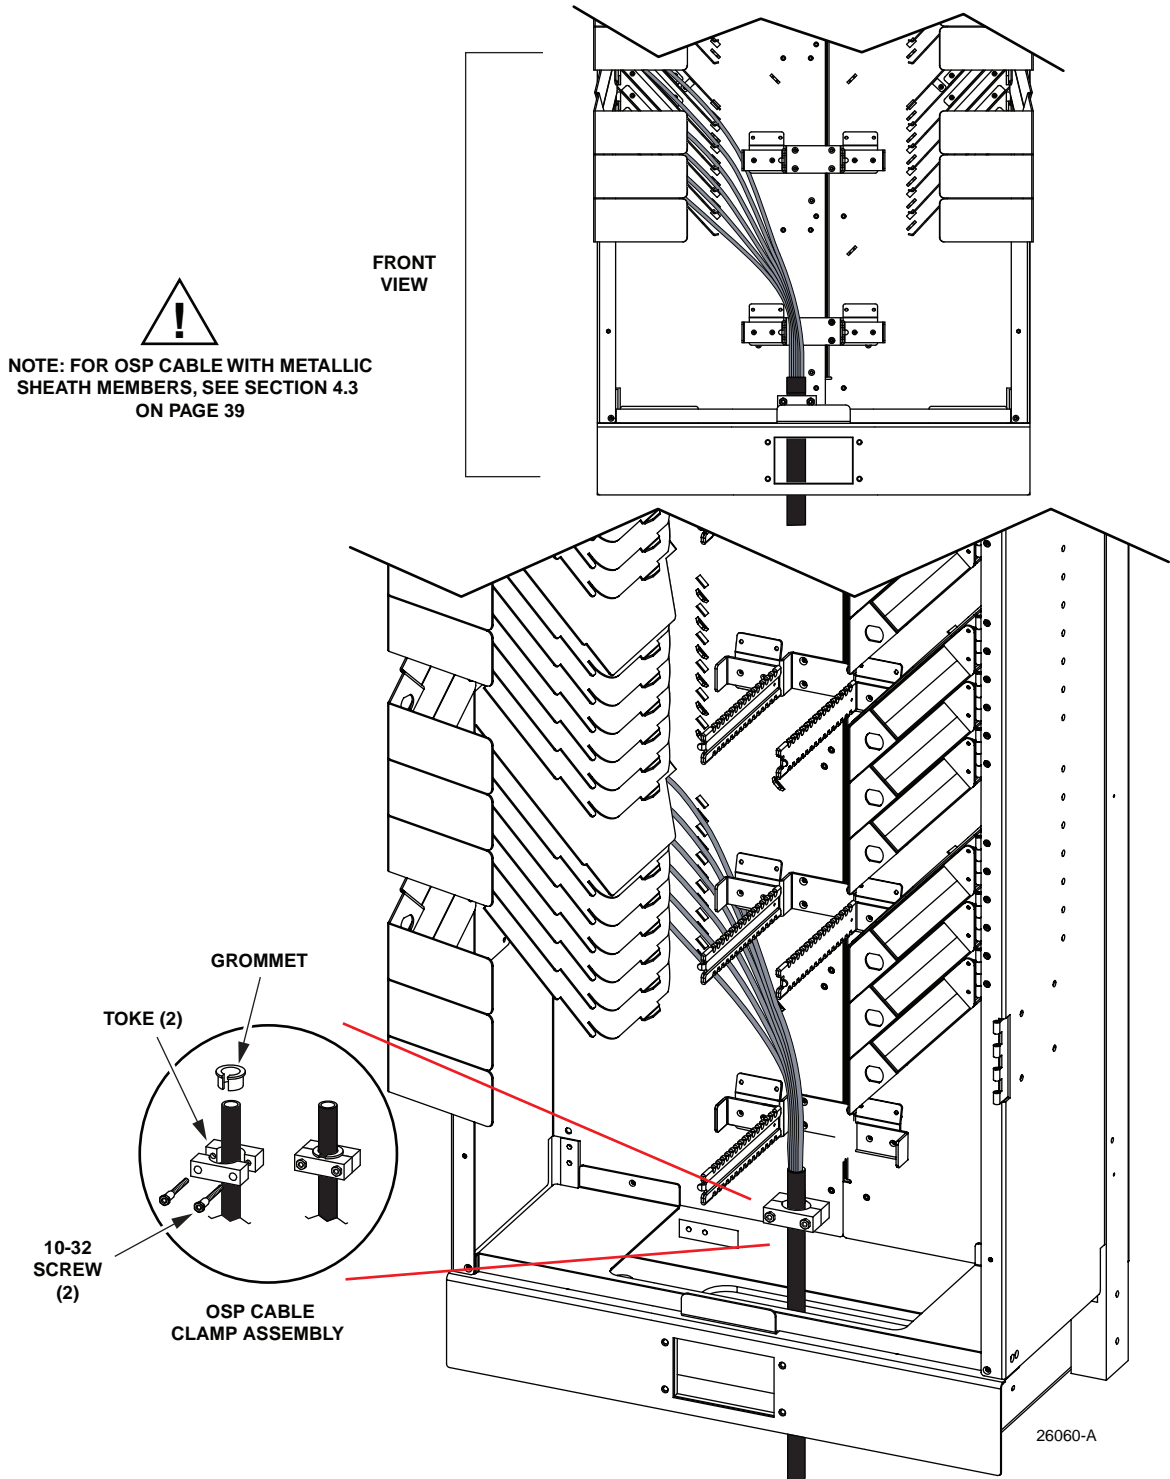

Figure 7. OSP Cable Routing (Raised Floor Cable Environment)
1. Route and secure OSP cable to the bay as shown in Figure 7.